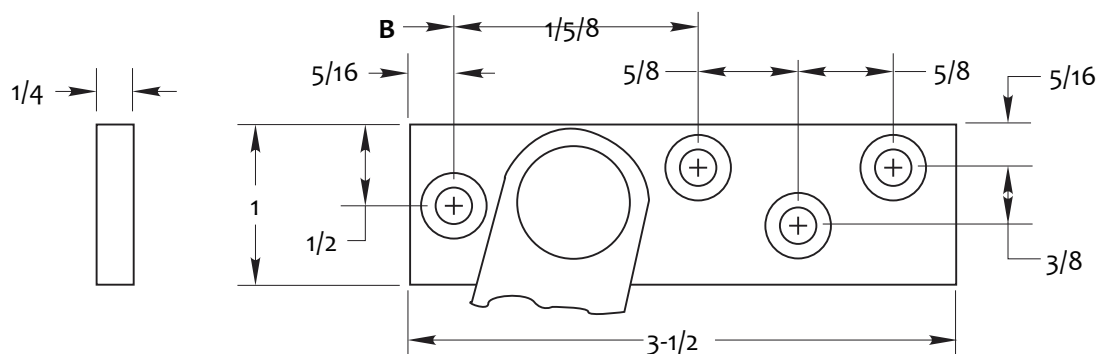

Figure 2 Jamb bracket screw hole dimensions
- Mark jamb bracket position. (Figure 2)
- Make 1/4" depth cutout for jamb bracket (Figure 2)